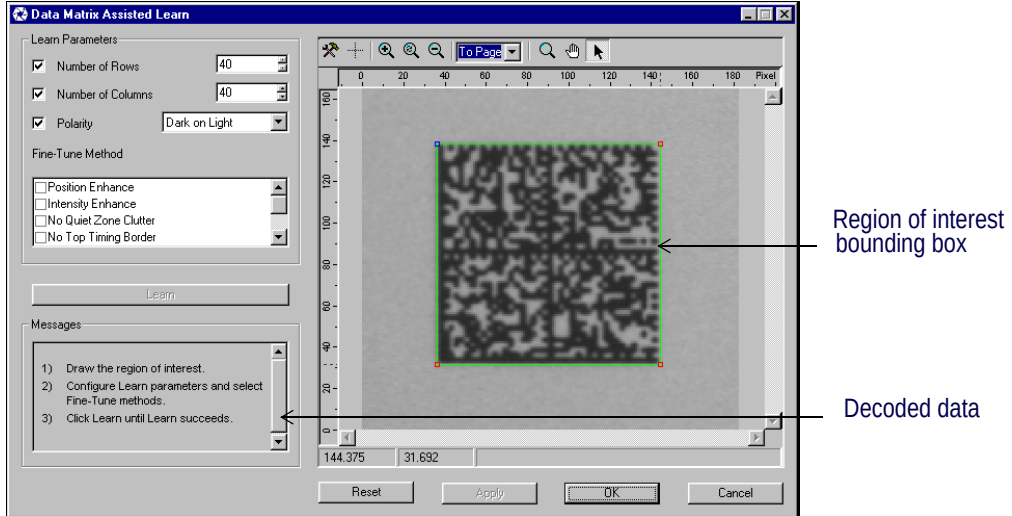

Figure 420 Data Matrix Reader — Assisted Learn Interface
- Drag a bounding box around the data matrix that is displayed in the image. If necessary, readjust the sides of the bounding box so that they are snapped tightly to the edge of the matrix, as shown in Figure 420.
- Use the corner handles to adjust the size of the bounding box so that tightly encloses the matrix, i.e. closely snap the rectangle sides to the matrix edges, as show in Figure 420.